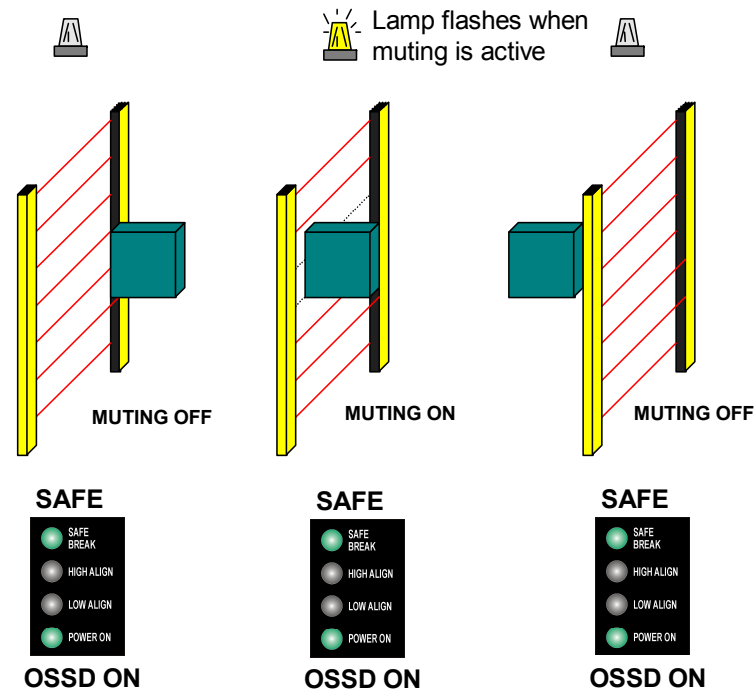

Fig. 23
- Fig. 23 shows the muting operating modes.